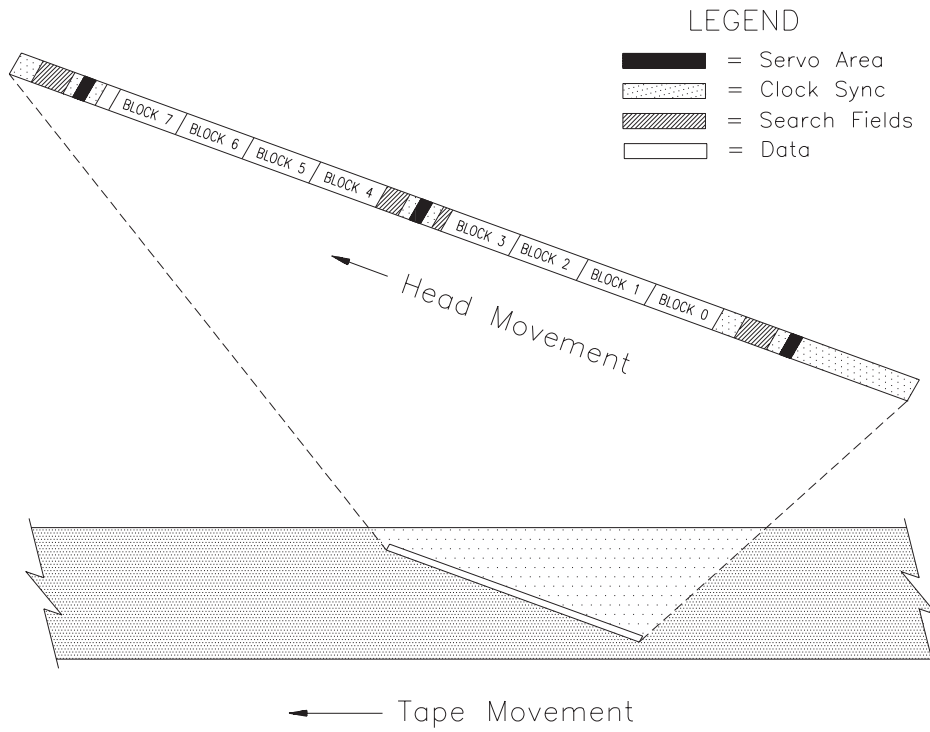
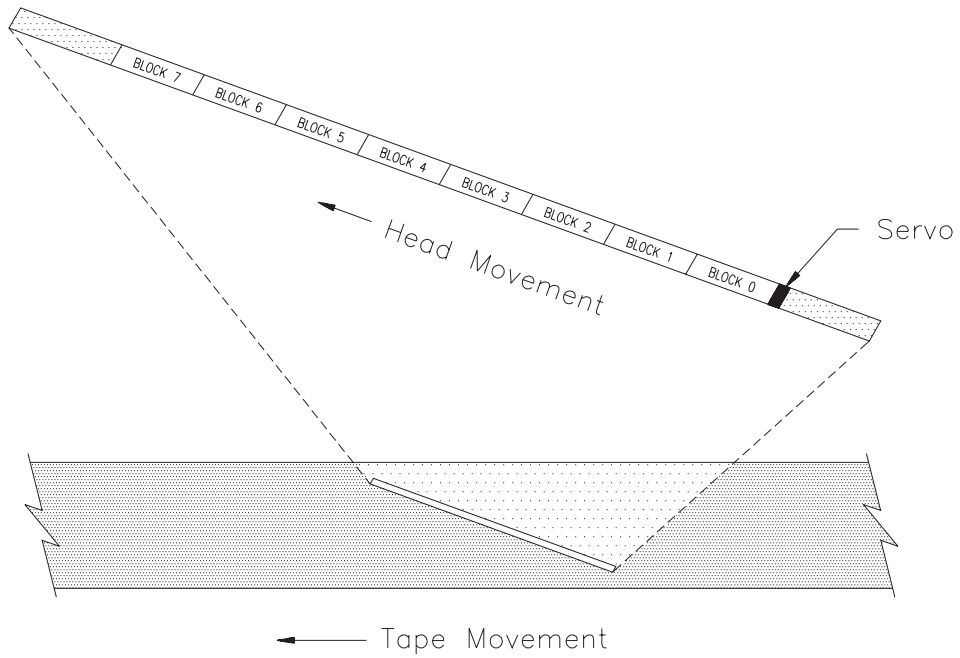

Figure 2-5 Physical track structure for 8200c track format
Figure 2-6 Physical track structure for 8200 track format
Figure 2-5 shows the physical track structure on a tape written in 8200c format. Figure 2-6 shows the physical track structure on a tape written in 8200 format.
- In 8200 format, the tape drive places a servo area at the beginning of each track (as shown in Figure 2-6).